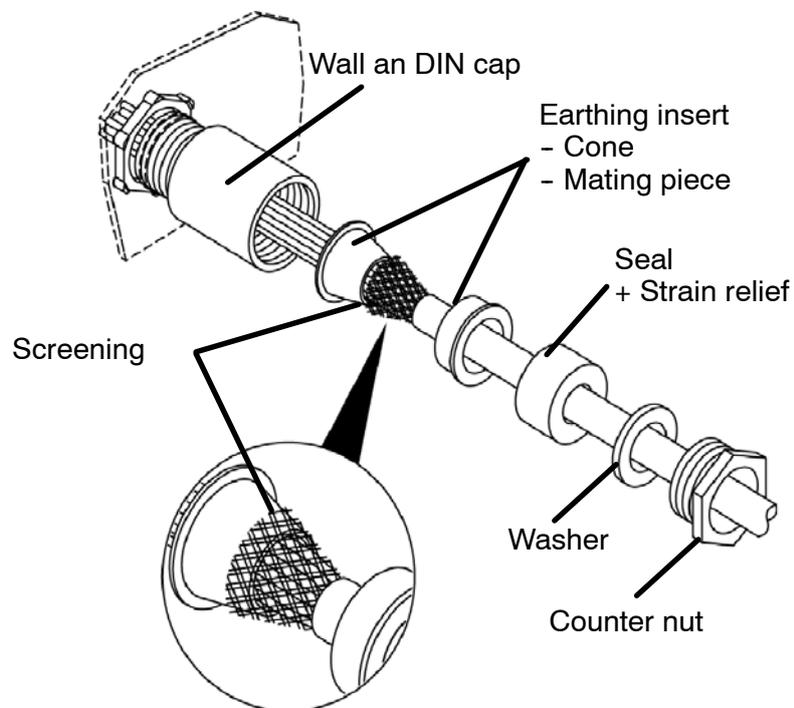

Figure 3: Creating the cable connection
It is essential to follow the sequence (as shown in Figure 3).
- Push the cone inside the screening and against the mating piece. Ensure that the screening is evenly distributed over the cone (see Figure 3).